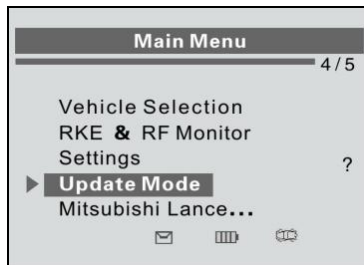

Figure 4.1
- 2) Use **UP/DOWN SCROLL** button to select **Update Mode** from **Main Menu** (Figure 4.1), and press **Y** button to confirm.